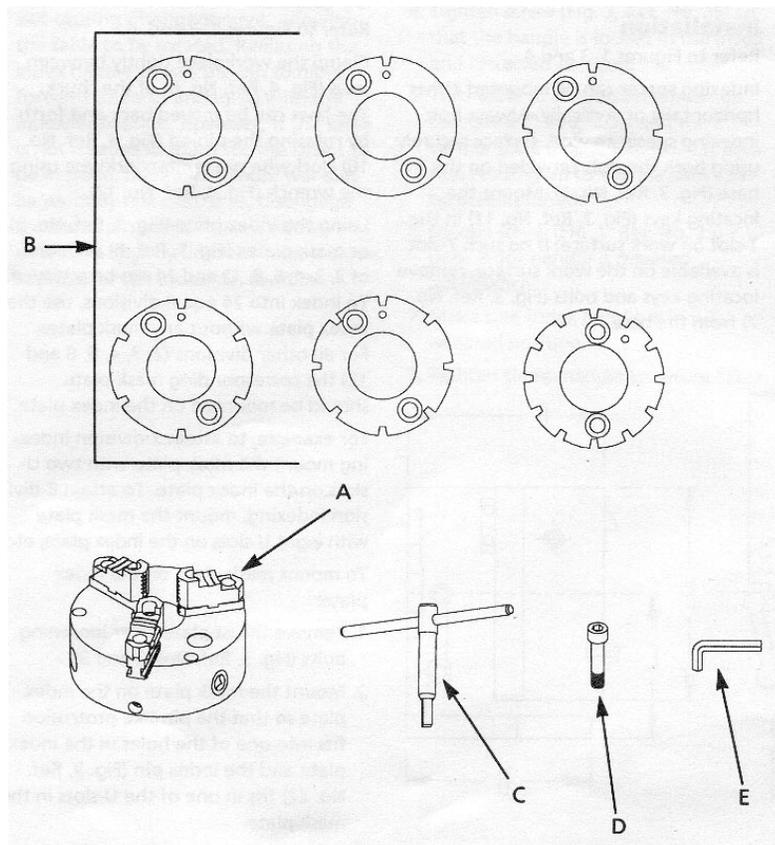
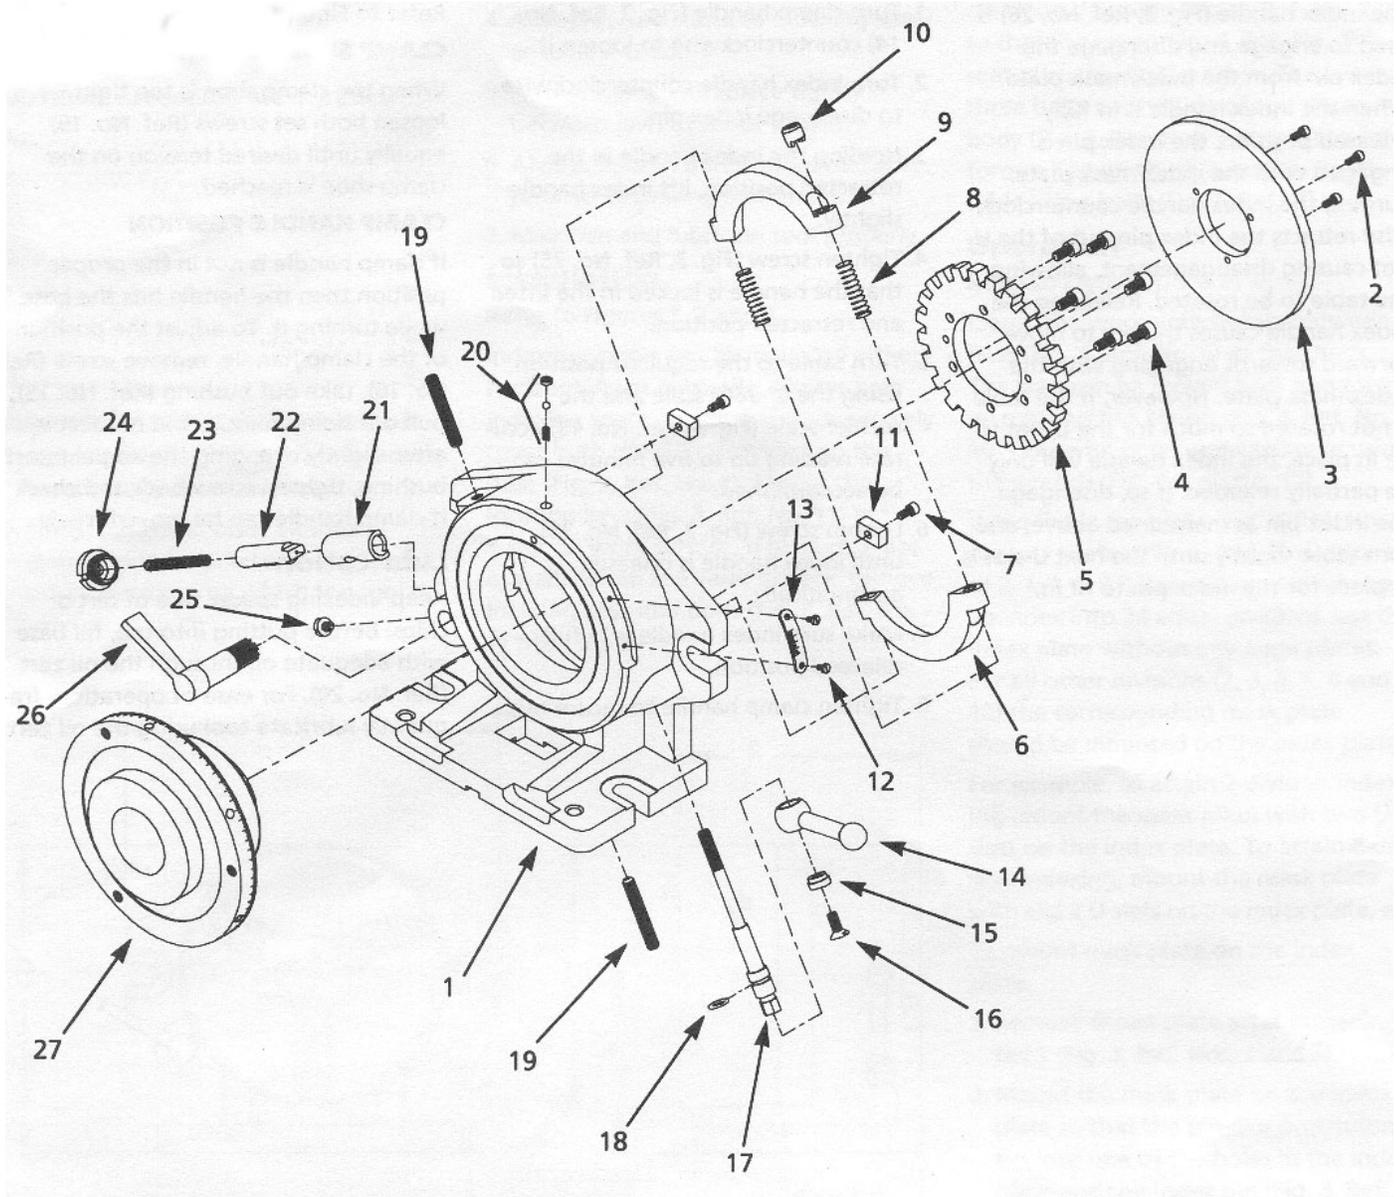
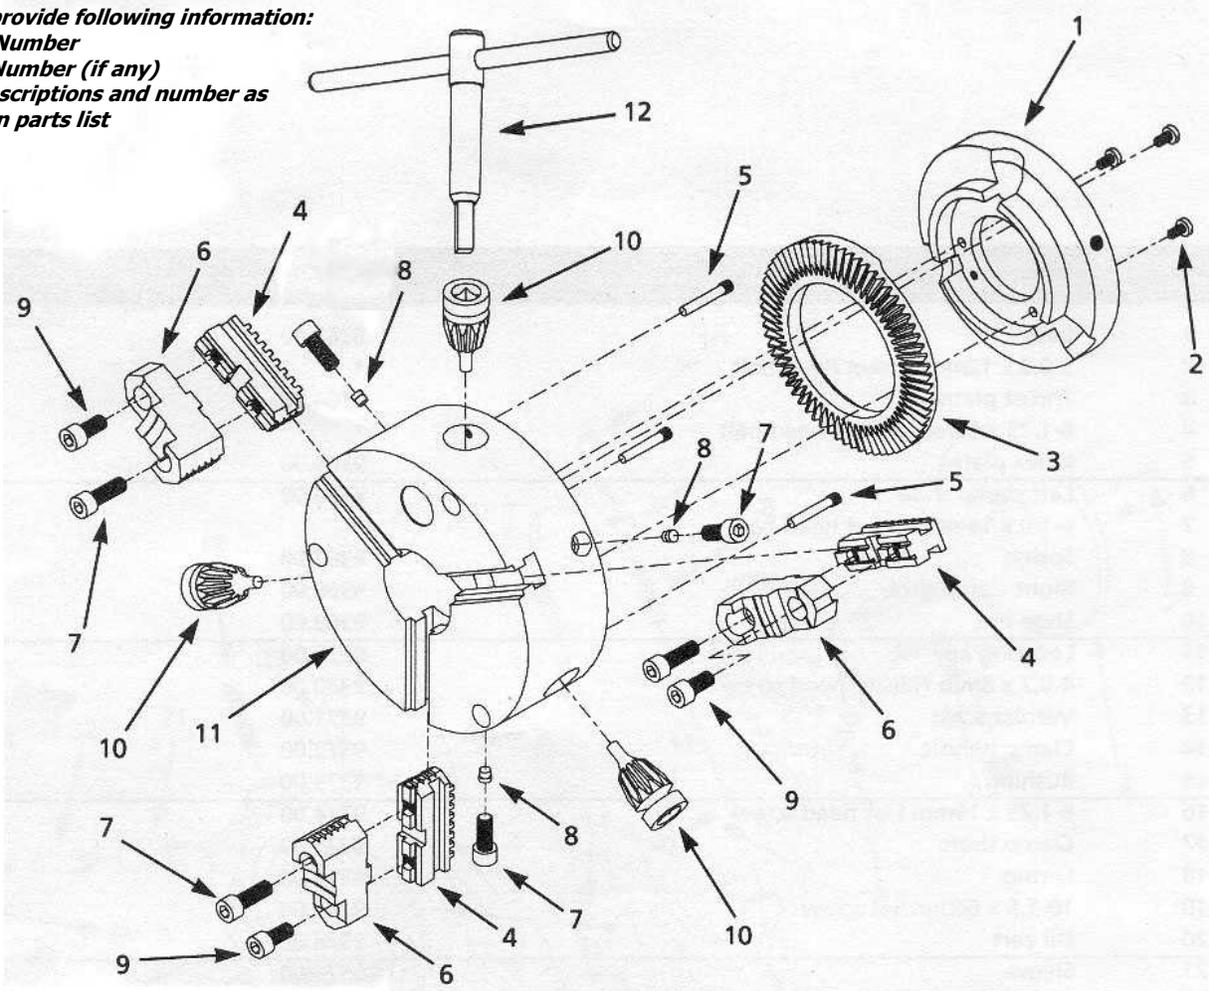

Figure 1 - Unpacking
Figure 3 – Replacement Parts Illustration for Base Assembly
Figure 4 – Replacement Parts Illustration for Chuck
Refer to Fig 1.
Refer to figures 1,3,and 4
Indexing spacer can be mounted either horizontally or vertically. Always bolt indexing spacer to work surface securely using both the slots provided on the base. (Fig 3, Ref. No.1) Mount the locating keys (Fig 3. Ref No.11) in the T-slot on work surface. If no such T-slot is available on the work surface, remove locating keys and bolts (Fig. 3 Ref. No. 7) from the base. The chuck is shipped assembled. Mount chuck on the table (Fig.3, Ref. No. 27) so that the cover (Fig.4, Ref. No. 1) is seated evenly on the table. Tighten three bolts on the side of the chuck body (Fig. 4, Ref. Nos. 7 and 11) to equal torque. Secure chuck assembly tightly to table using bolts (Fig 1, Ref D)
Refer to Figures 1, 3, and 4.
Clamp the workpiece tightly between jaws (Fig.4, Ref No. 6) of the chuck. The jaws can be moved back and forth by rotating the pinion (Fig.4, Ref. No.10) clockwise or counterclockwise using the wrench (Fig. 4, Ref. No. 12) Using the index plate (Fig. 3 Ref. No. 5), or mask plates (Fig 1 Ref B) divisions of 2,3,4,6,12, and 24 can be achieved. To index into 24 equal divisions, use the index plate without any mask plates. For all other divisions (2,3,4,6,8 and12) the corresponding mask plate should be mounted on the index plate. For example, to attain 2-division indexing, mount the mask plate with two U-slots on the index plate. To attain 8-division indexing, mount the mask plate with eight U-slots on the index plate, etc.
1. Remove thrust plate after loosening bolts (Fig.3, Ref. No. 2 and 3)
2. Mount the mask plate on the index plate so that the pin-like protrusion fits into one of the holes in the index plate and the index pin (Fig. 3, Ref. No 22) fits in one of the U-slots in the mask plate.
The index handle (Fig. 3, Ref No. 26) is used to engage and disengage the index pin from the index/mask plate. When the index is in fully released position, the index pin is engaged with the index/mask plate.
1. Turn clamp handle (Fig. 3, Ref No.14) counterclockwise to loosen it.
4. Tighten screw (Fig. 3, Ref. No 25) so that the handle is locked in the lifted and retracted position.
5. Turn table to the required position. Using the 0°-360° scale and the vernier scale (Fig. 3, Ref. No 13) accurate reading up to five minutes can be accomplished.
6. Loosen screw (Fig.3, Ref. No 25) until index handle is released automatically.
Refer to Figure 3.